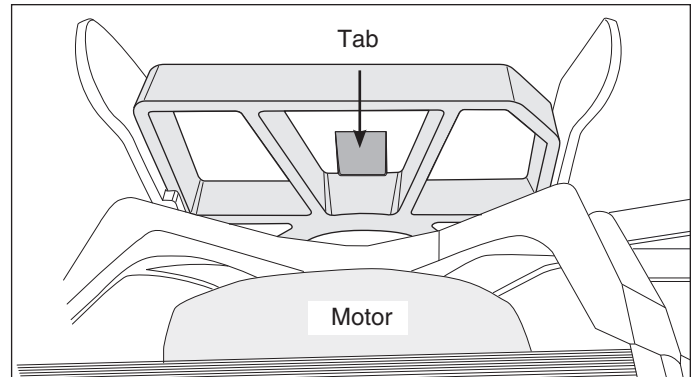

Figure 4-41.
3. Using a small flat bladed screwdriver, lift the blower housing lock over the tab and pull out of slot. (See Figure 4-41)